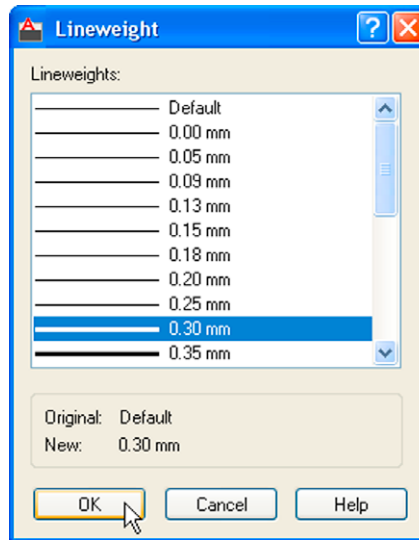

Fig. 4.19 The Lineweight dialog
7. Click on the any of the lineweights in the **Layer Properties Manager**. This brings up the **Lineweight** dialog (Fig. 4.19). Select the lineweight **0.3**. Repeat the same for all other layers. Then click the **Close** button of the **Layer Properties Manager**.